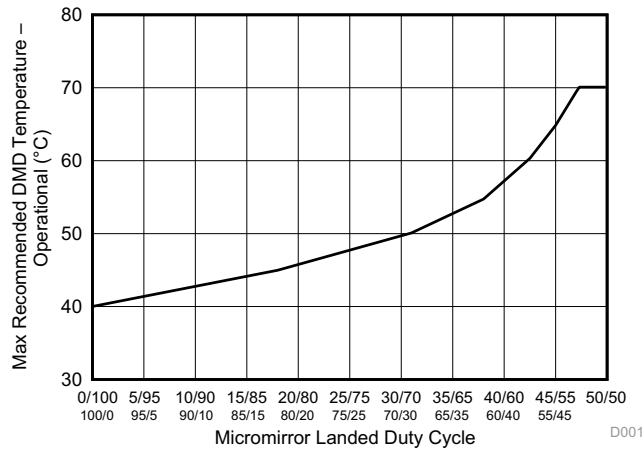

Figure 1. Max Recommended DMD Temperature – Derating Curve
- (6) Long-term is defined as the average over the usable life.
- (7) Per Figure 1, the maximum operational case temperature at test points TP1 and TP2 as shown in Figure 9 or Figure 10 should be derated based on the micromirror landed duty cycle that the DMD experiences in the end application. Refer to Micromirror Landed-on/Landed-Off Duty Cycle for a definition of landed duty cycle.